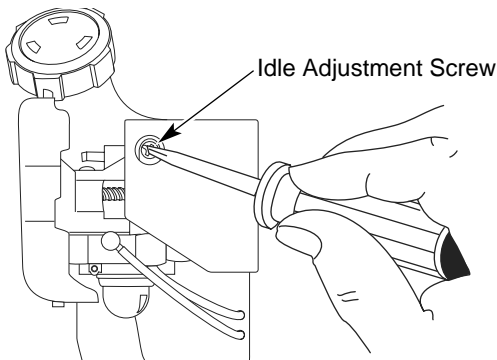

Fig. 61
The idle speed of the engine is adjustable. An idle adjustment screw is reached through a hole in the top of the engine cover (Fig. 61).
2. Release the throttle trigger and let the engine idle. If the engine stops, insert a small phillips or flat blade screwdriver into the hole in the air filter/muffler cover (Fig. 61). Turn the idle speed screw in, clockwise, 1/8 of a turn at a time (as needed) until the engine idles smoothly.